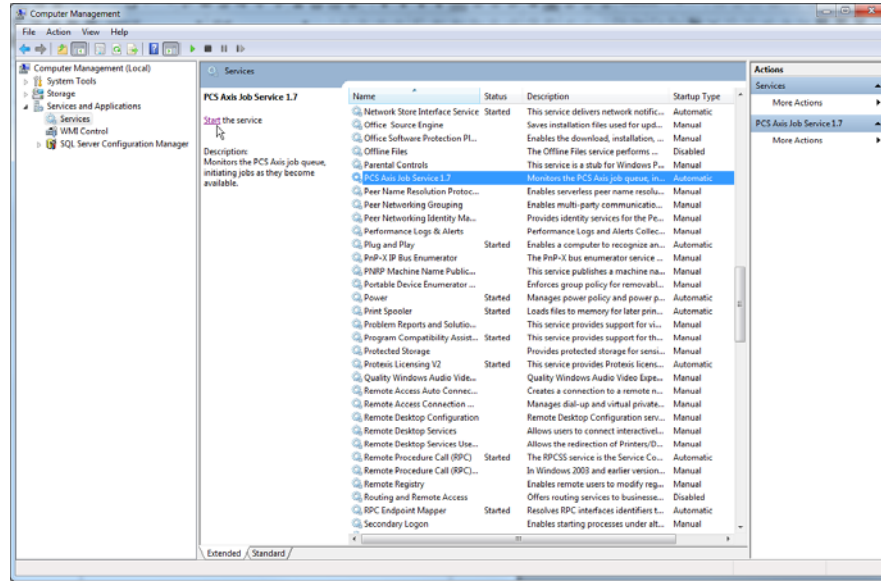

Figure 11-5. Computer Management Console
- a Click the Windows **Start** button  and navigate to *Computer*. Right-click **Computer** and select **Manage** in the shortcut menu to open the *Computer Management* console (Figure 11-5, page 525).